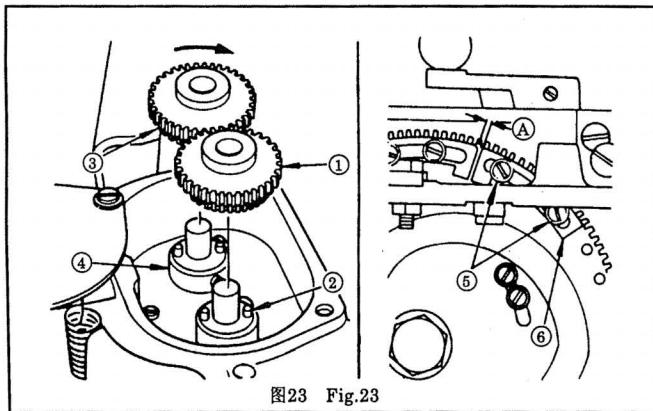

图23 Fig.23
* 齿轮的安装 图23
- 1)先将齿轮①插进蜗轮轴里和靠近操作者一侧的交换齿轮挡圈②上的定位销内。
- 2)再将齿轮③一边按箭头方向旋转,一边插进离操作者远的交换齿轮挡圈④上的定位销内和送料凸轮传动轴里。
* Attaching the spur gears to their shafts Fig.23
- 1) Push gear ① into the shaft so that it is securely fixed by the pin on gear bushing ② located nearer to an operator.
- 2) For installing gear ③ on the pin of rear gear bushing ④, push gear ③ into the shaft while turning it in the arrow direction.